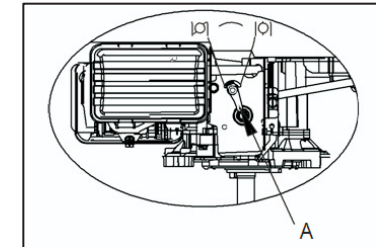

Fig. 2B A. throttle control
- c) Move the throttle control to the choke  position. (Fig 2B)